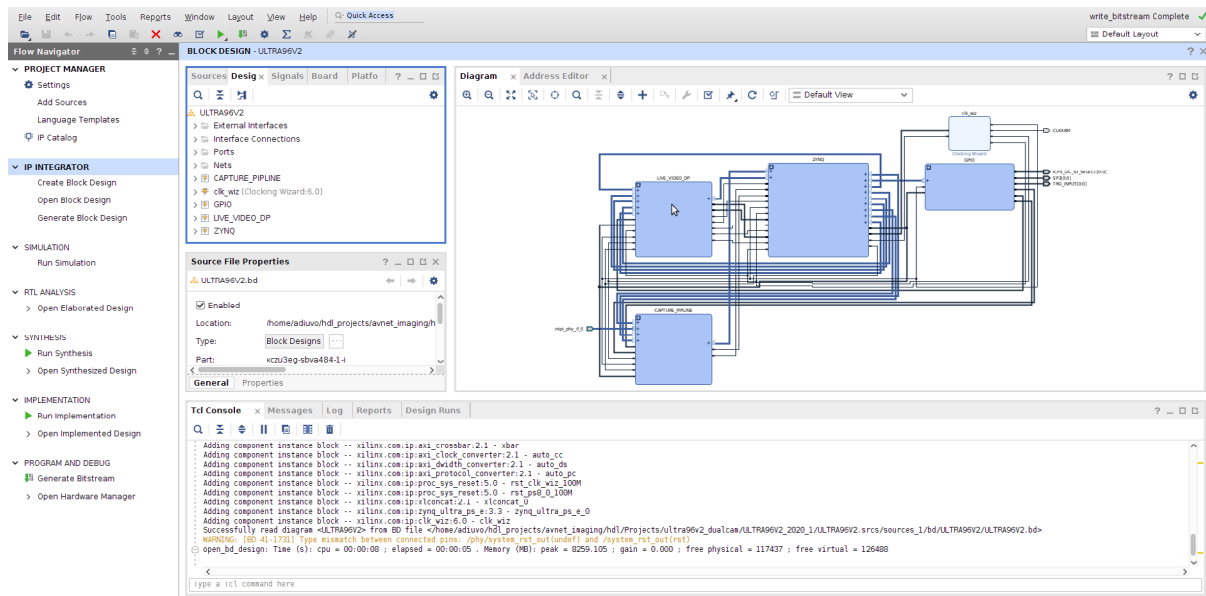

Figure 15. Block diagram opened in Vivado
3. Open the block diagram (see Figure 15) to observe the design that has been implemented in the project and float the block diagram so that it is in its own window.